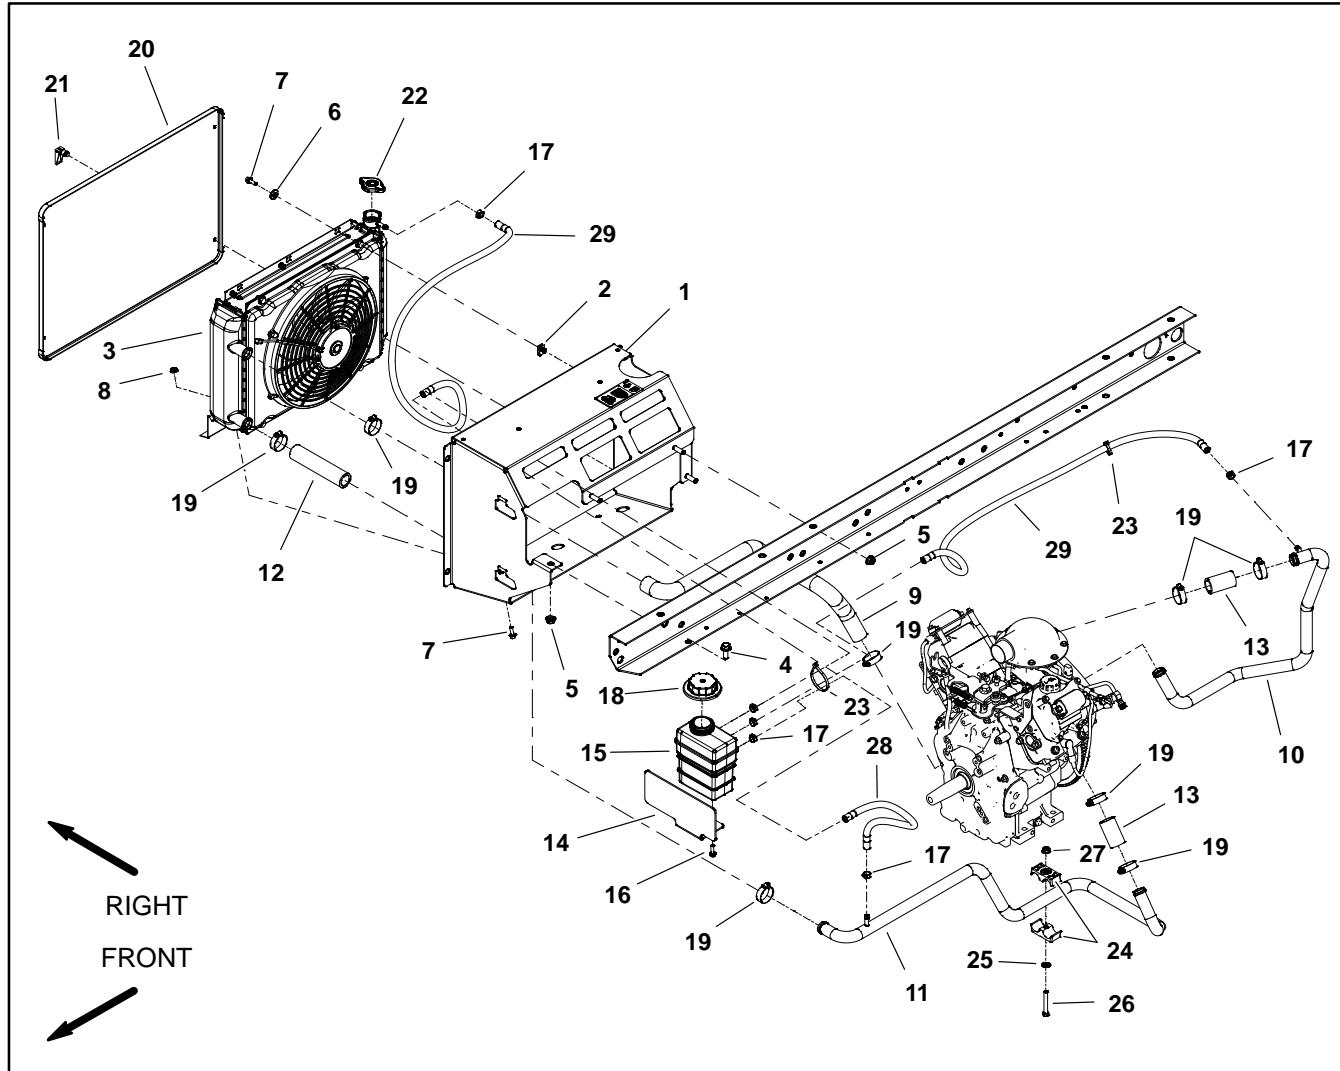

Figure 17
Removal (Fig. 17)
- Installation (Fig. 17)**